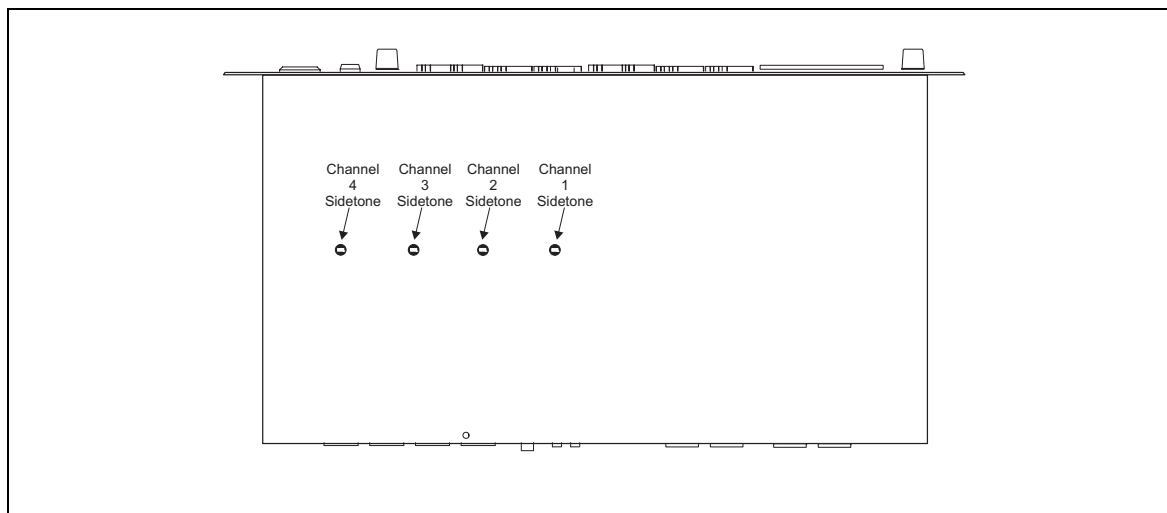

Figure 5. Sidetone Adjustment diagram (MS-4002 bottom view)
4. Using a small, standard screw-driver, adjust the **channel 1 sidetone** (Figure 5) through the access hole in the bottom of the MS-4002 to minimize the tone volume.